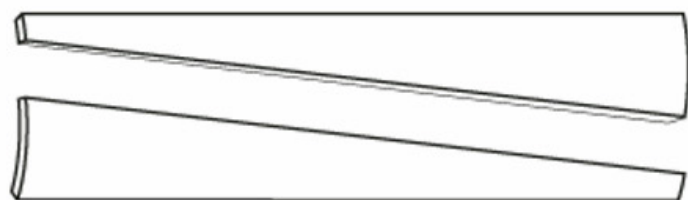

Fig. 3
**1e.** Mark a diagonal line between the two marks you just made on each piece, and use the jigsaw to cut along these lines (see Fig. 3). You should wind up with eight identically shaped trapezoidal blades. You can trim a ninth blade out of the 60° strip left over. You now have enough blades for three generators, or plenty of spares for one generator.